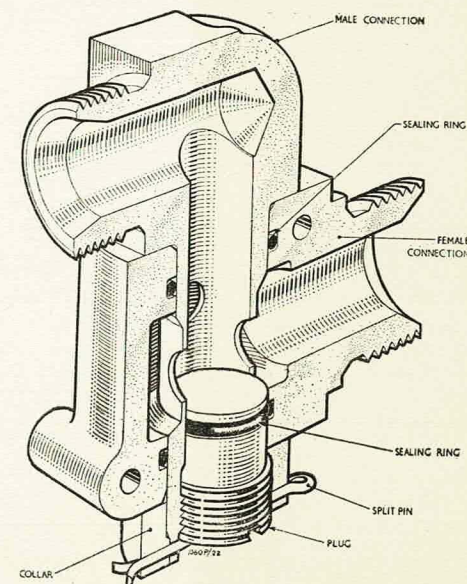

Fig. 1. Swivel pipe coupling unit
1. The swivel coupling is used instead of a flexible pipe and is normally located at a point where the movement is controlled about one axis. Two connections with fixed female type unions form the coupling (*fig. 1*). The swivel post of the male connection is assembled in the body of the female connection, and retained by a collar and a split pin. The bore of the swivel post is sealed by a screwed plug, fitted with a sealing ring, and is linked by radial holes to an annular groove in the post, which coincides with an annular groove in the female connection. Additional grooves in the female connection house sealing rings to prevent the leakage of fluid, and lugs are provided for attachment purposes.